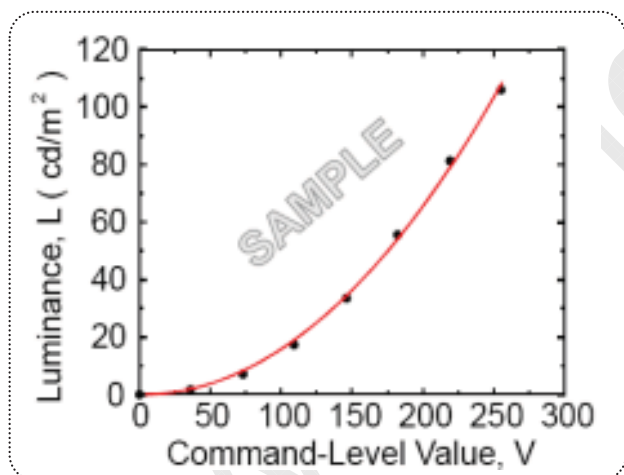
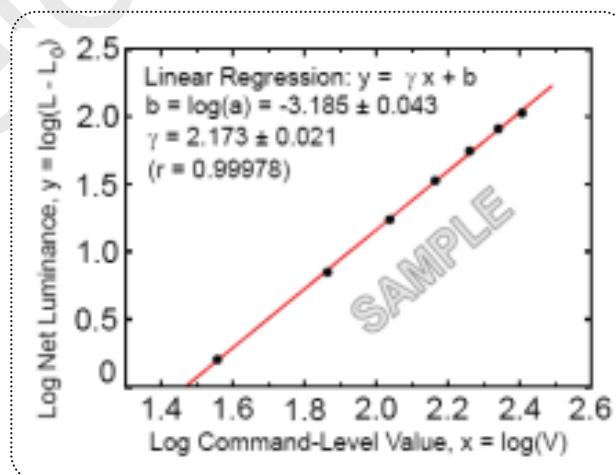

FIG.11 Sample Luminance vs. gray scale
FIG.12 Sample Log-log plot of luminance
7. GSR is the rate of gamma shift at up, down, left and right 60 degree viewing angle compare with center gamma. For more information see FIG.11 and FIG.12 **(By EZ Contrast)**
The GAMMA we calculate from the log-log representation (FIG.11)